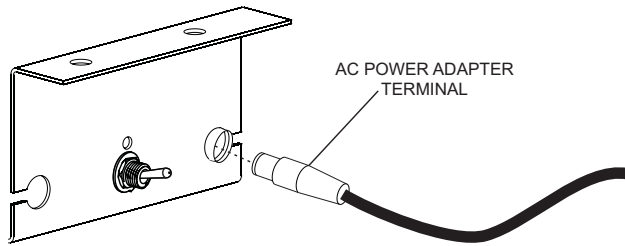

Figure 29
13. Plug power adaptor into plug in junction box on right of fireplace. Connect other end of power adaptor terminal into its receiver on the right of the burner assembly. See **Figure 29**.